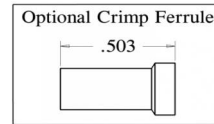
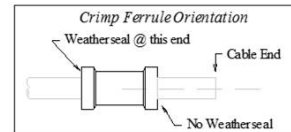

Figure 1a
Figure 1b
- Cut the cable end square. Install Environmental Seal/Heat Shrink (if applicable). Install the selected crimp ferrule over jacket. If using the PIC weatherproofing ferrule, install it on the cable per figure 1a. If using the optional ferrule, install it per figure 1b. Score the jacket at Cut A. DO NOT nick or cut into the braids. Score the jacket at cut B. Complete Cut B by removing the jacket, then trim off all braids.